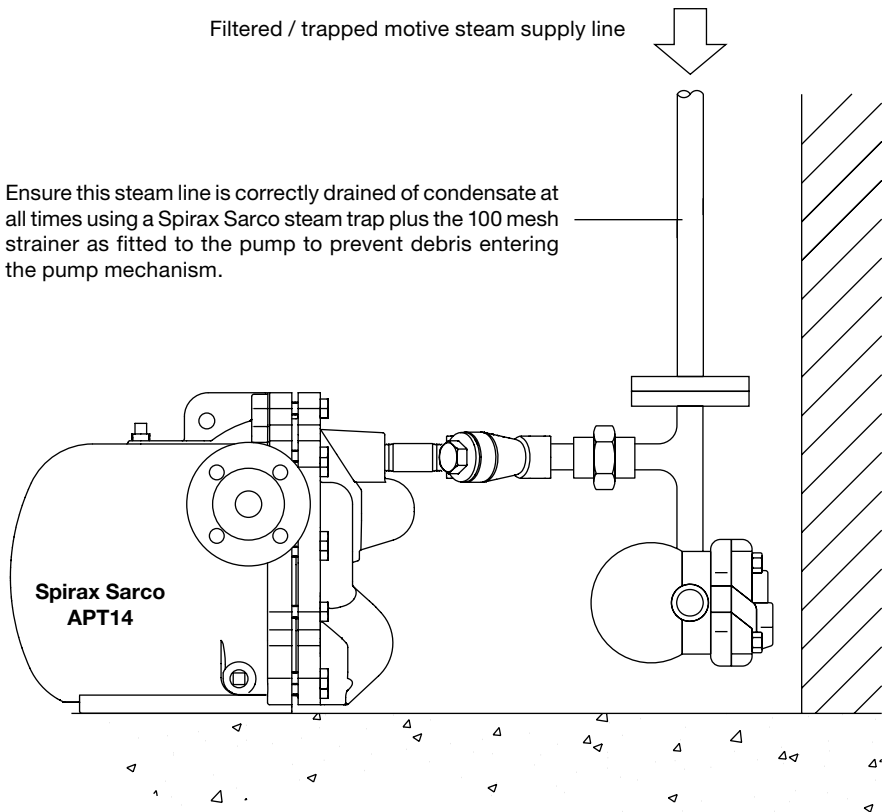

Fig. 14
- 5.1** After ensuring the inlet and outlet pipe connections and motive/exhaust connections are coupled in accordance with Figures 14 and 15, slowly open the motive steam inlet line to supply pressure to the APT14, APT14HC or APT14SHC. Ensure the exhaust/balance line is open and not restricted in any way.